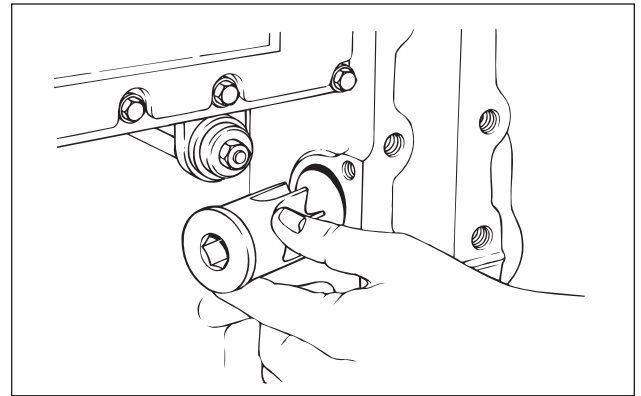

FIG. 2
4. Remove the cover from the flywheel housing and insert the Caterpillar turning tool as shown in Figure 2.